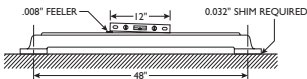

Fig. 12-4
2. The shim thickness required will be as many times thicker than the gauge thickness as the distance between bearing points is greater than the level length (See Fig. 12-4).